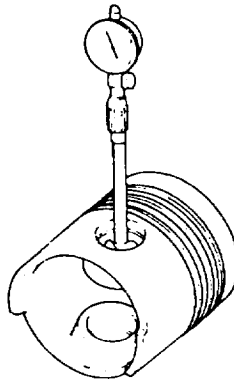

Figure 6-45 Checking piston pin hole
- 2) Measure the I.D. of the piston pin hole. If it exceeds the service limits, replace the piston (see Figure 6-45).